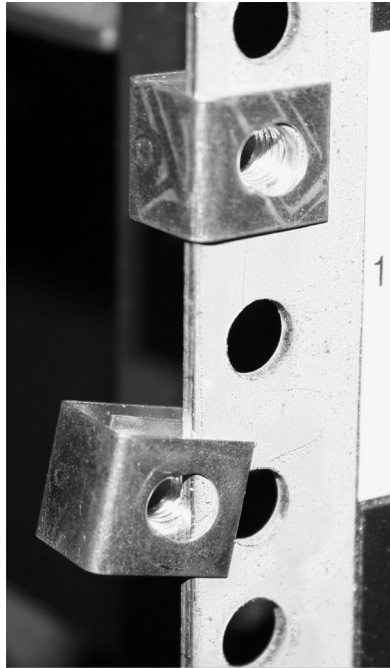

Figure 6. Positioning the clips
2. Position the four “C” clips in the rack’s mounting bar, as shown in Figure 6 on page 14.